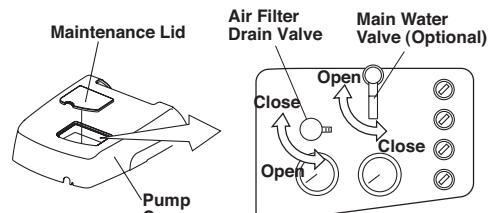

Fig.5-13 Air Filter Drain Valve and Main Water Valve
(5) Air Filter Drain Valve (Fig.5-13)
(6) Main Water Valve (Optional)(Fig.5-13)